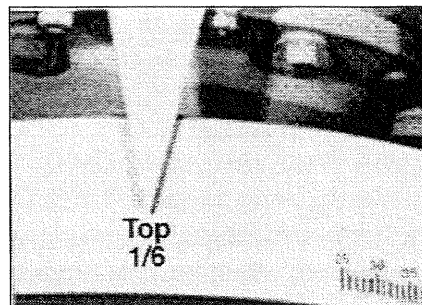

Figure 8. Timing Mark
3. Align the "1.6 TOP" mark on the vibration damper with the pointer using the barring tool (see "Injection Pump Timing" page 15). In this position the No. 1 cylinder is at top dead center of the compression stroke, and the No. 6 cylinder's intake valves will start to move. (See Fig. 8).